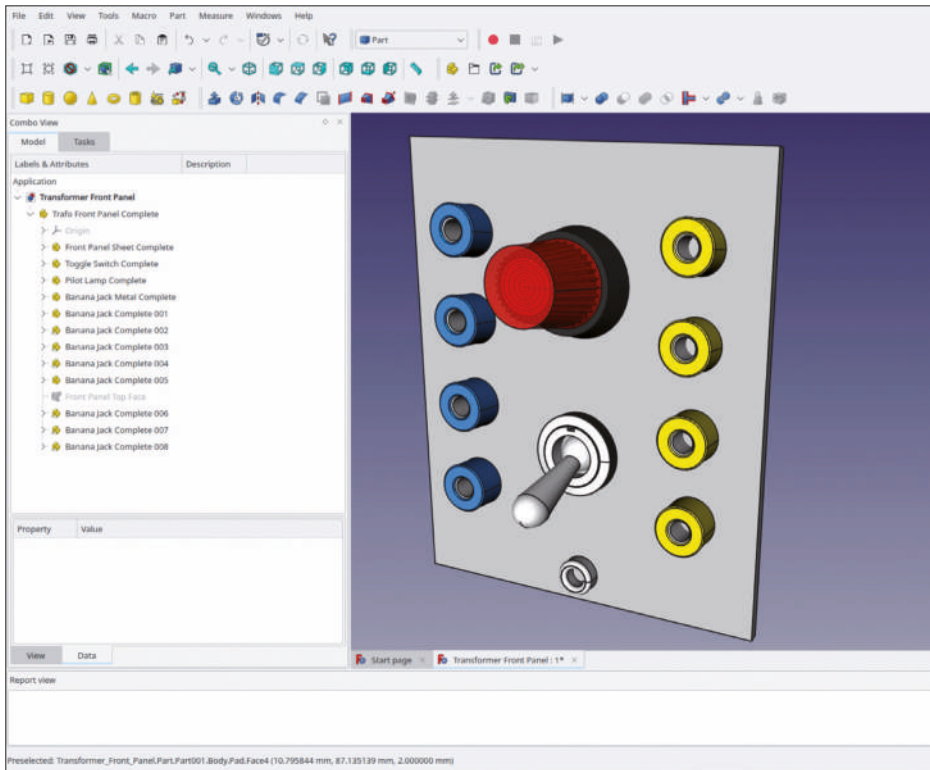

Figure 9-24
16. Expand 'Banana Jack Complete 005' and mark 'Banana Jack Cap' and 'Banana Cap Washer'. As in step 5, set the appearance of these objects to the material 'Shiny Plastic', but select a bright blue for the color (Figure 9-24).